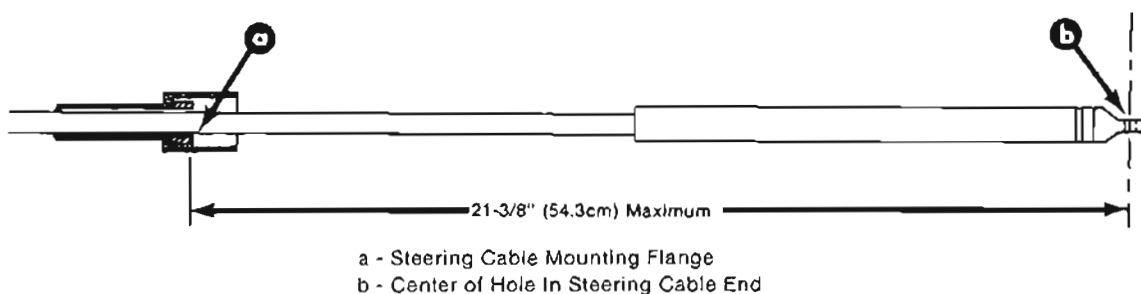

Figure 4. Checking Steering Cable End Dimension (Cable Fully Extended)
3. Check steering cable end dimension with cable fully extended. (Figure 4) If excessive, replace cable or steering head as required.